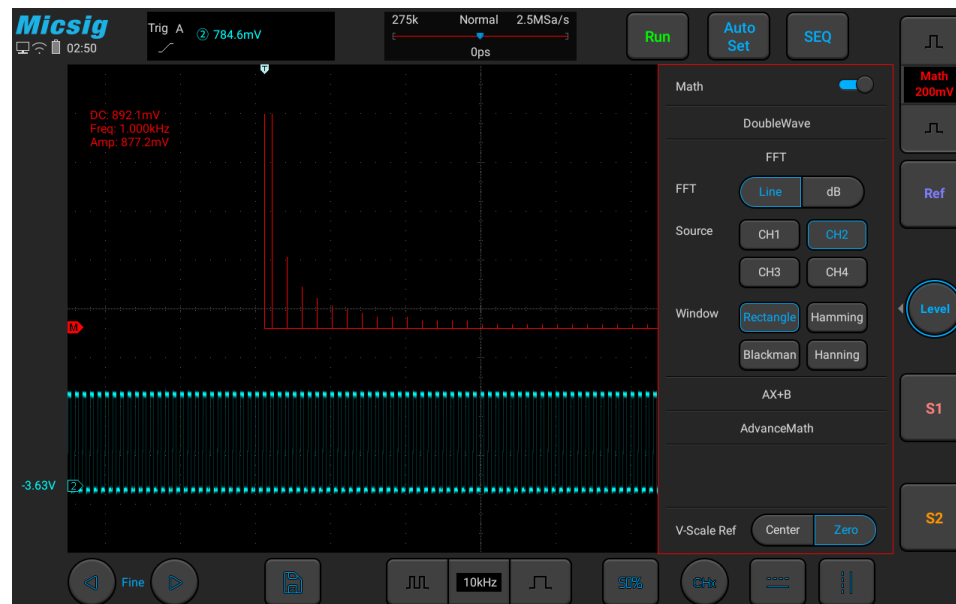

Figure 8-3 FFT Window
- 2) Tap  spectrum type “Line/Decibel” to open the FFT window (see Figure 8-3 FFT Window).